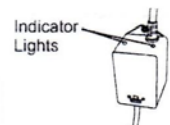

FIGURE 7
22. Once power is activated you can check the ballast (12), Figure 7, to see if the **CLEARRAY** System is functioning. A solid green light indicates that the **CLEARRAY** System is being provided power and should always be on. A solid red light indicates that UV lamp is activated.